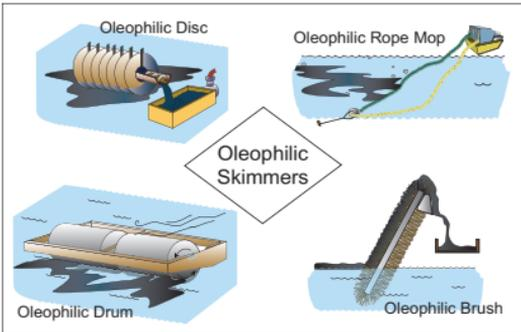

Figure OR-2. Oil recovery using oleophilic skimmers.
- Oleophilic skimmers may also be used in situations with adequate amounts of pooled oil or if the oil has pooled on water (Figure OR-2). These skimmers pick up oil that adheres to a collection surface, leaving most of the water and debris behind. The oil is then scraped from the